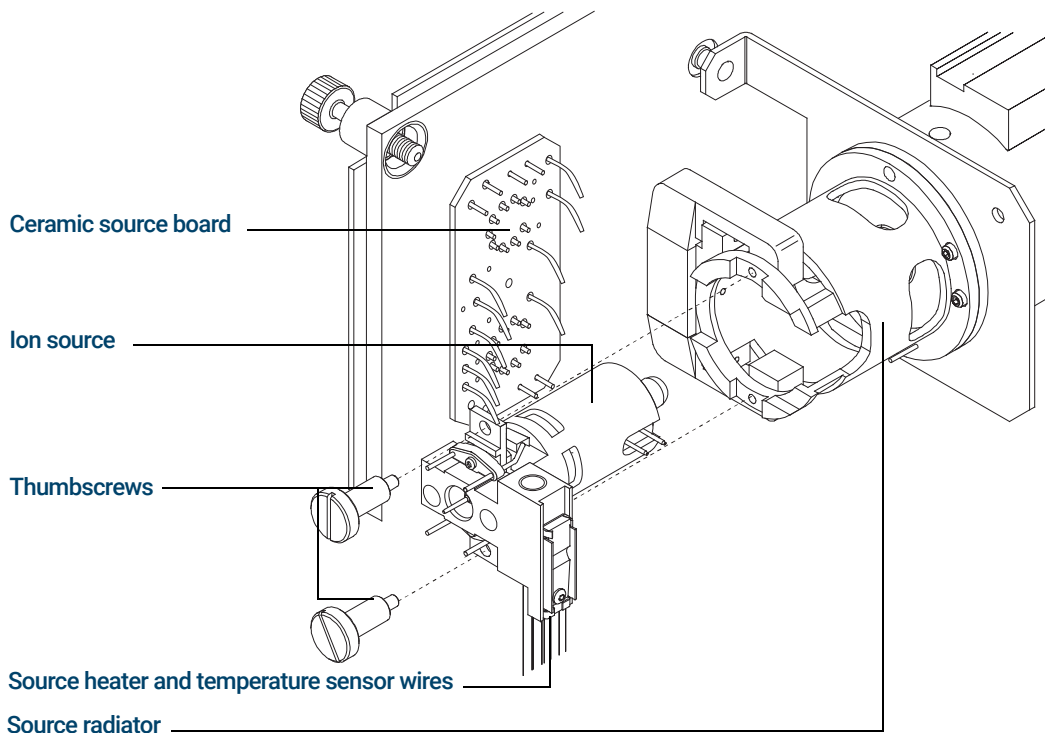

Figure 50. Removing the EI XTR source
- 4 Remove the thumbscrews that hold the ion source in place. (See **Figure 50.**)